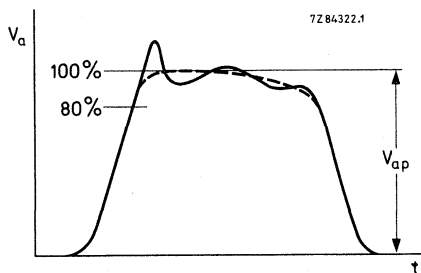

Fig. 2 Voltage pulse.
- dV_a/dt or $\Delta V_a/\Delta t_{rv}$ Unless otherwise stated the rate of rise of voltage dV_a/dt is defined by the steepest tangent to the leading edge of the voltage pulse above 80% of the smooth peak value (see Fig. 2).